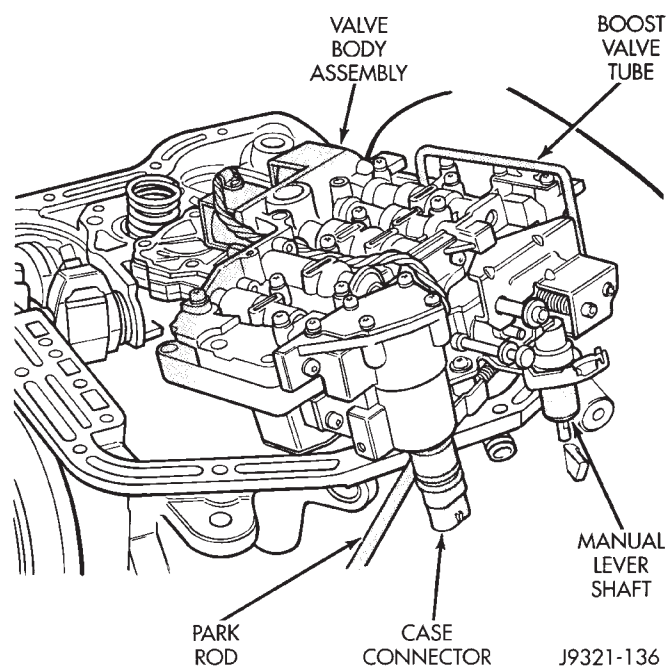

Fig. 15 Valve Body Removal—46RH
(16) Lift valve body upward. Push solenoid connector and manual lever shaft out of case. Then raise valve body, guide park rod out of case and remove valve body (Fig. 15). **Do not use boost valve tube to lift valve body.** Set valve body aside for disassembly, cleaning and inspection.